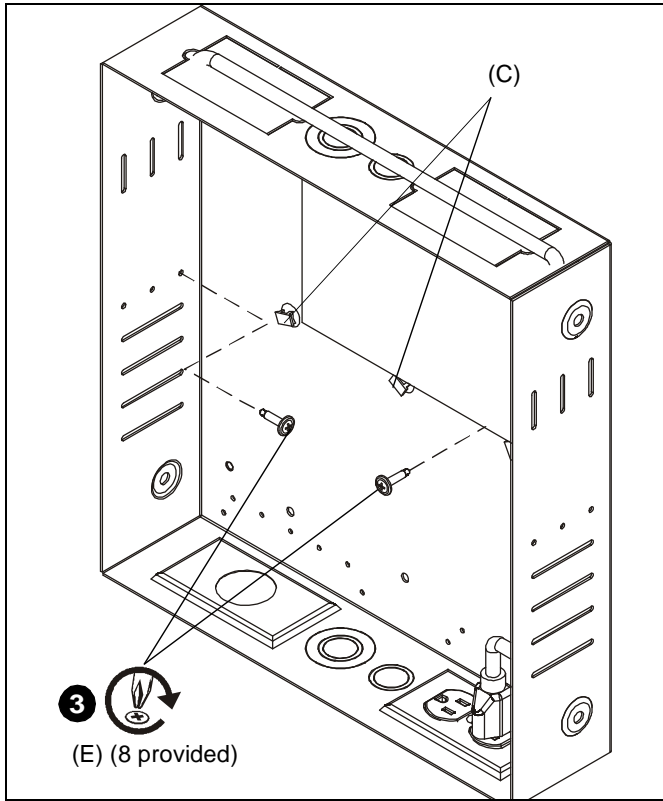

Figure 5
- Secure accessory to box using Phillips screwdriver and as many 1/8-18 x 3/4" mounting screws (E) as required. (See Figure 5)
- Use the wire tie clips (C), as necessary, for cable management. (See Figure 5)